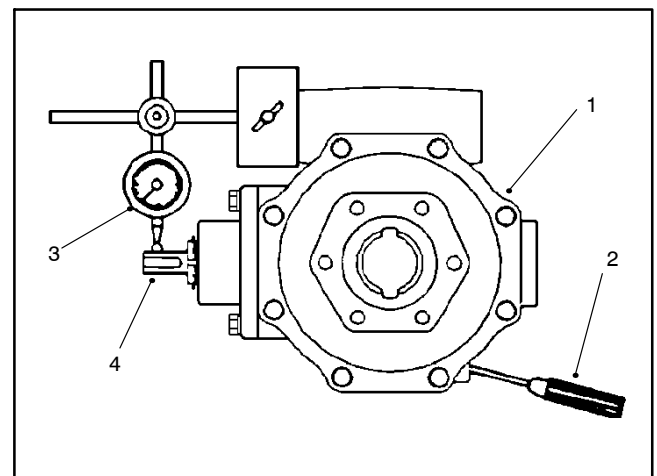

Figure 31
10. Insert a screwdriver through the drain plug hole to hold ring gear and measure the pinion gear to ring gear backlash (Fig. 31).